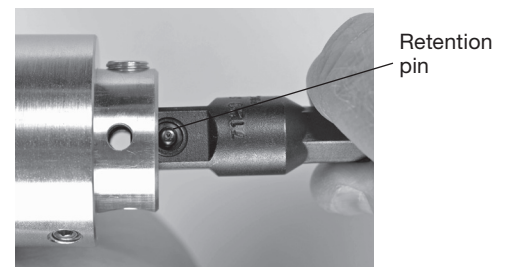

Fig. 30 Installing the power adapter
3. Depress the retention pin on the power adapter and install the adapter into the driver/blade holder. Ensure the retention pin on the adapter engages a retention hole on the driver/blade holder. (Fig. 30)